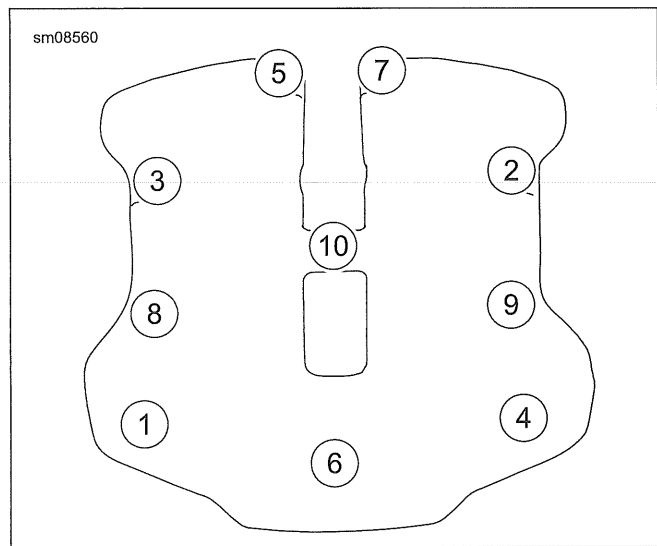

Figure 4-19. Rocker Cover Tightening Sequence
- d. Hold hex on stud (4) when tightening center screw (3).
- e. See Figure 4-19. Tighten in sequence shown.